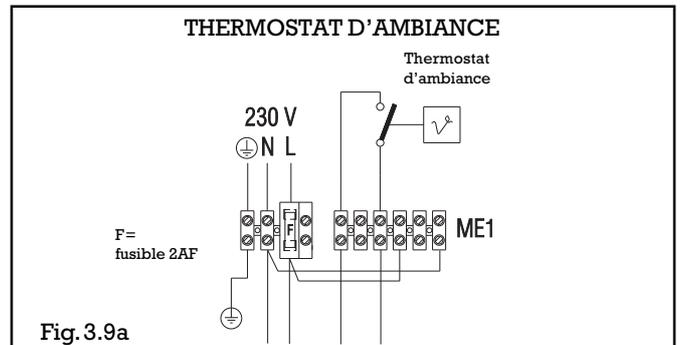

Fig. 3.9a
• THERMOSTAT D'AMBIANCE (fig. 3.9a)